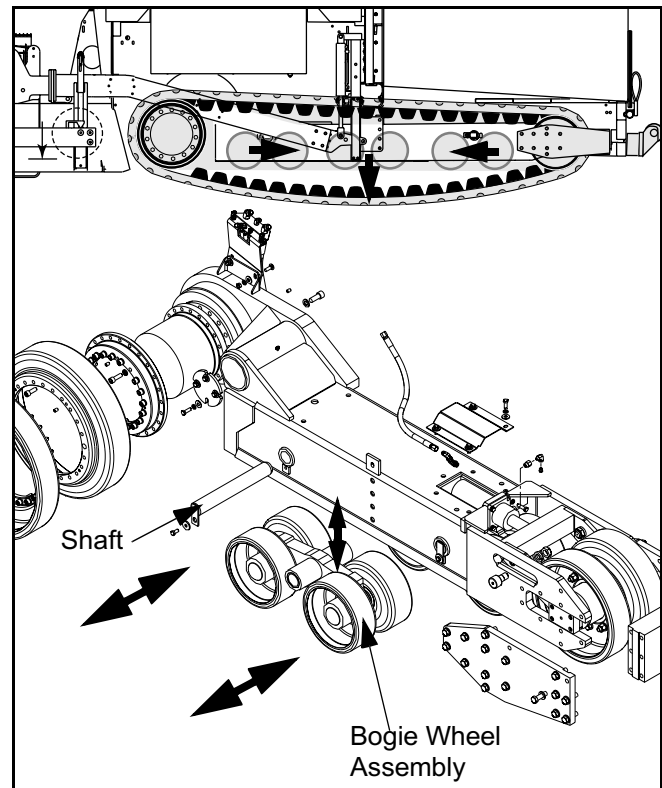

Figure 6 - 17 Bogie Wheel Assembly Removal
- 1) Perform the procedure "Rubber Track Installation & Removal" on page 6 of this section to relieve rubber track tension. Also see (Figure 6 - 14) and (Figure 6 - 15).
- 2) Remove shaft from track frame that holds center bogie wheel assembly to frame (Figure 6 - 17). This will allow the assembly to drop onto the track.